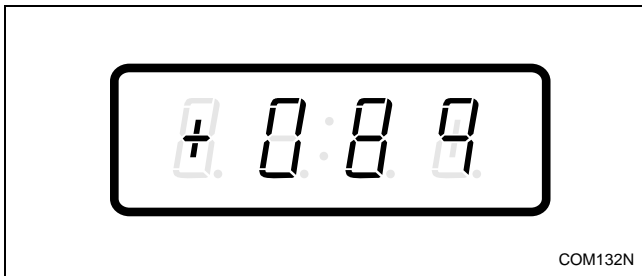

Figure 133
3. Press the DELICATES (+) or the COLD (-) keypad to scroll through the programmable options until “+089” appears in the VFD. Refer to *Figure 133*.